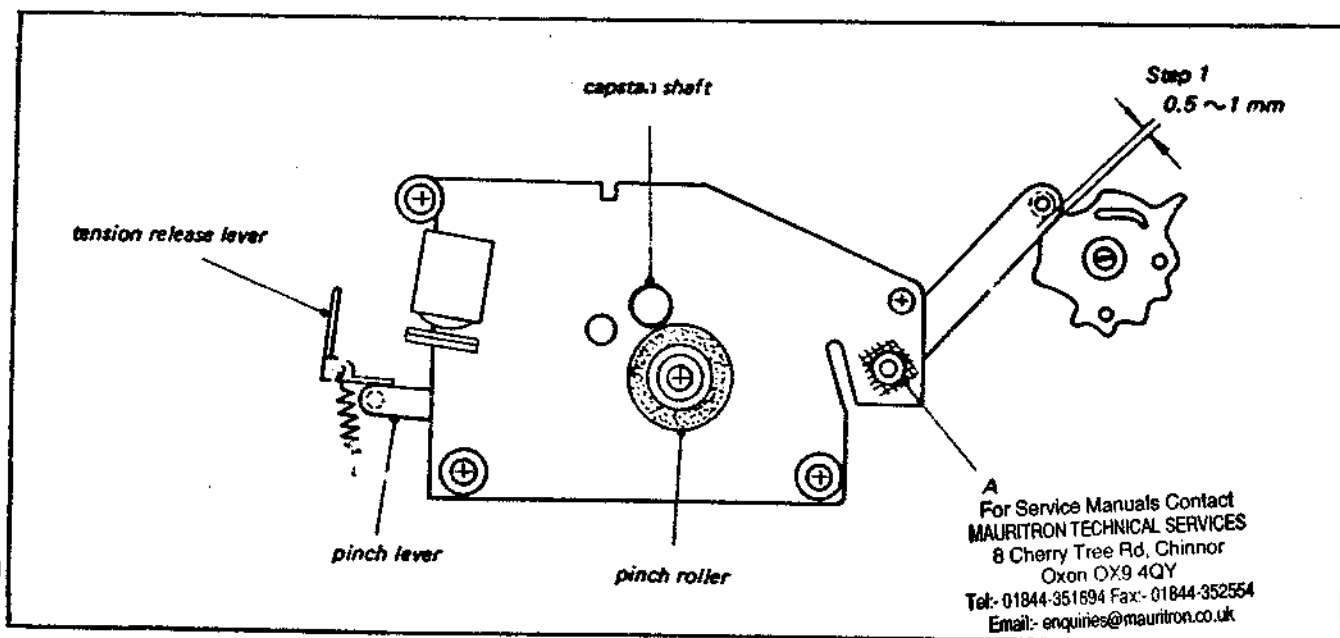
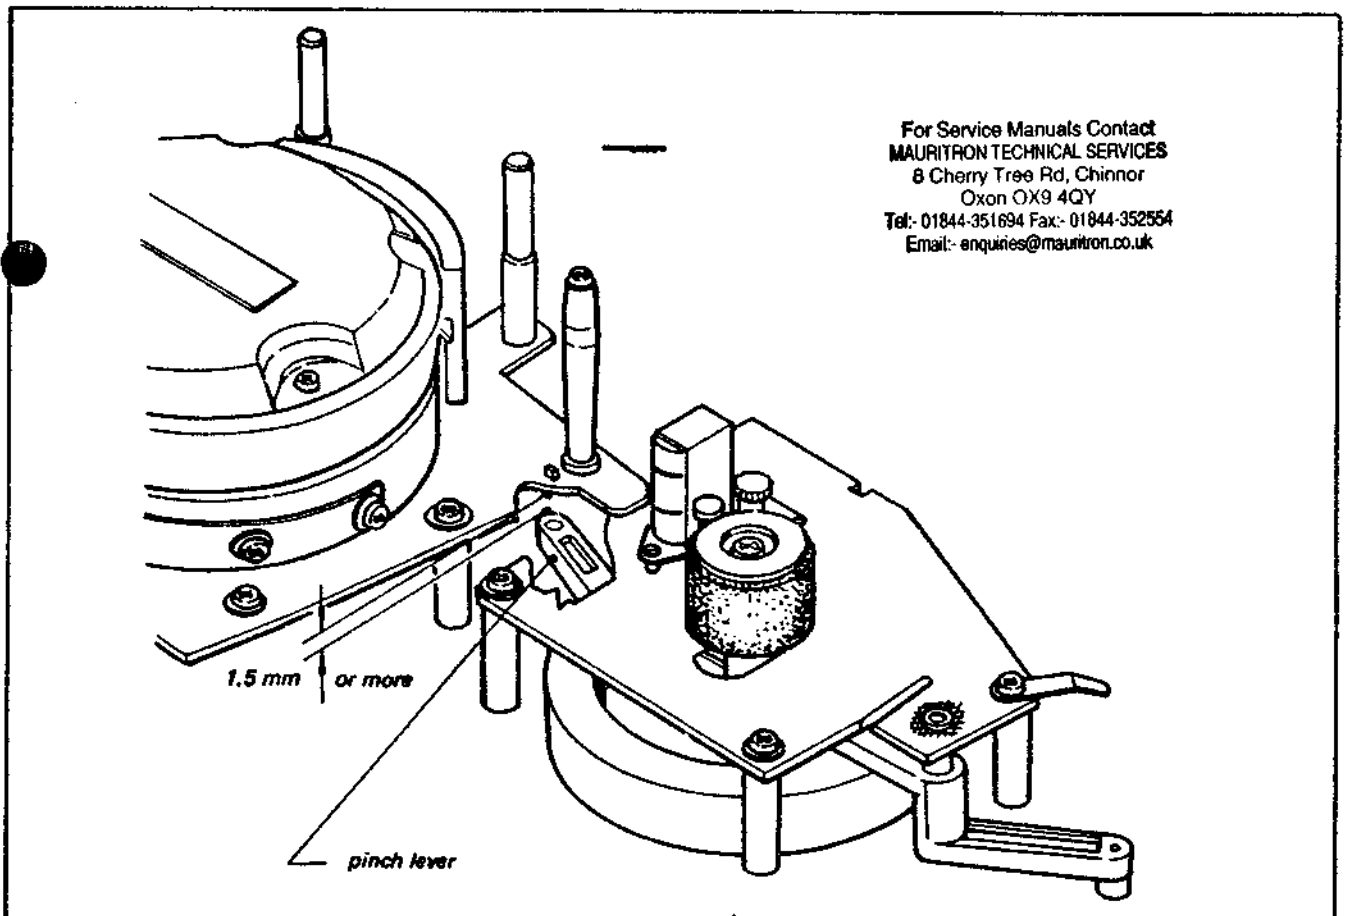

Fig. 4-21. Capstan deck adjustment
Fig. 4-23. Pinch lever adjustment
17. Put the Capstan Deck Assembly with Flywheel on the four posts of the chassis. Position the Pinch Lever with relation to Tension Release Lever as shown in Fig. 4-21.
1. Set the Function Lever to FORWARD. Check that the clearance between the Pinch Lever and the Function Selector Cam is 0.5 to 1 mm. If necessary, readjust the position of the Capstan Deck Assembly. See Fig. 4-21.
Set the Function Lever to FORWARD. Check that the clearance between the upper end of the Pinch Lever and the lower end of the Drum Mounting Deck is more than 1.5 mm. See Fig. 4-23. If it needs adjustment, bend "A" in Fig. 4-21, with a pair of pliers. Recheck Pinch Roller Pressure as described in Section 4-18.
1. Set the Function Lever to FORWARD. Check for 0.1 mm clearance between the lower end of the Pinch Roller and the Capstan Shaft when the upper end of the Pinch Roller contacts the Capstan Shaft. See Fig. 4-24. Bend "A" in Fig. 4-21 with a pair of pliers as needed to obtain the correct spacing.